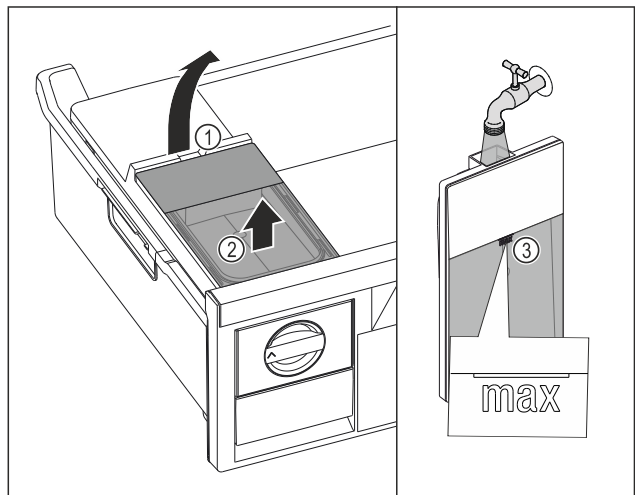

Fig. 166
- ▶ Lift the water tank at the recess Fig. 166 (1).
- ▶ Remove the water tank by lifting it upwards. Fig. 166 (2)
- ▶ Fill the water tank with drinking water up to the mark Fig. 166 (3).